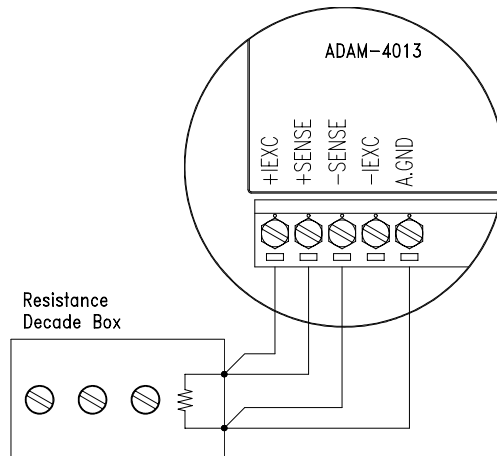

Figure 5-5 *Applying calibration resistance*
3. Apply the reference Span resistance to the terminals of the screw terminals using a 4-wire connection. Refer to Figure 5-5 for the correct wiring diagram and to Table 5-2 to choose the right Span calibration resistance).
4. Apply the reference Offset resistance to the terminals of the module. (Refer to Figure 5-5 for the correct wiring diagram and to Table 5-2 to choose the right Offset calibration resistance.)